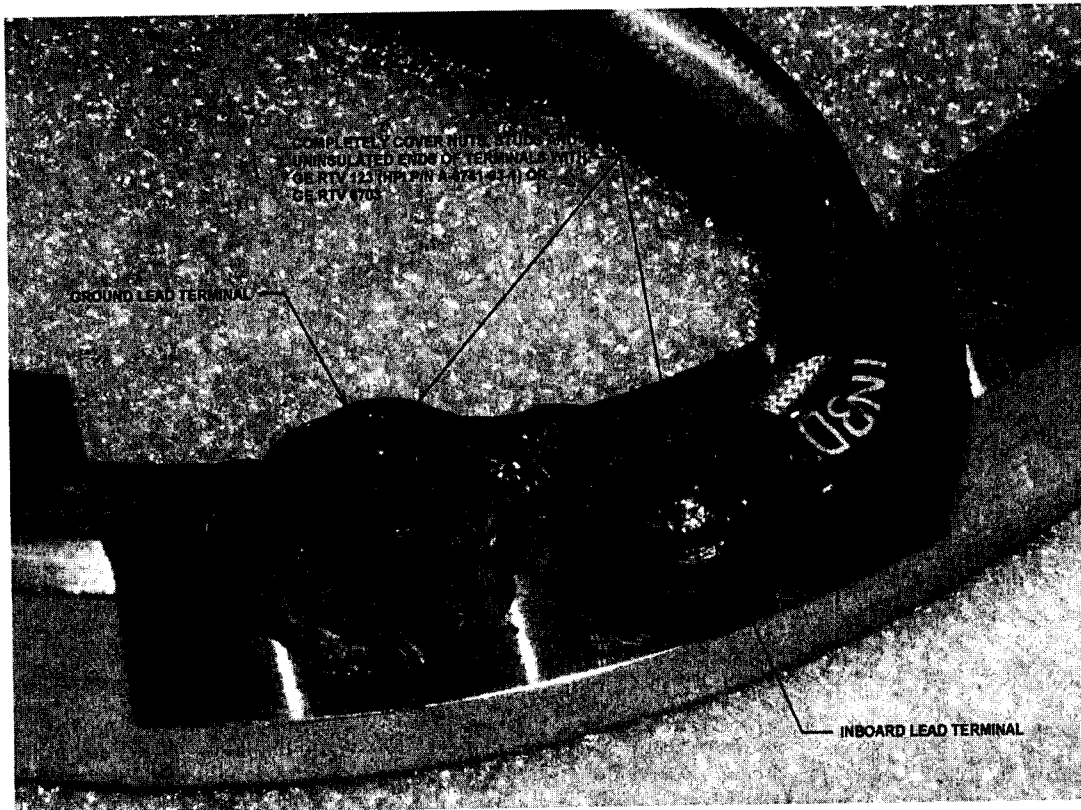

FIGURE 2
3. Verify P/N 104511 inboard (outer diameter terminal) and ground (inner diameter terminal) leads are connected per Figure 2. Torque nuts 8-10 in-lbs. Completely cover nuts, studs and un-insulated ends of terminals with GE RTV 123 (HPI P/N A-6741-93-1) or GE RTV 6703.